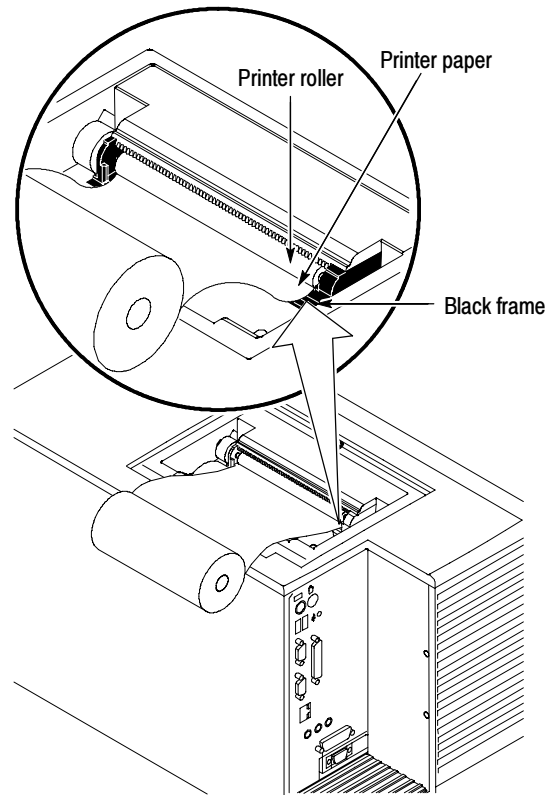

Figure 7: Feed the paper into the printer
4. Feed the paper into the printer, between the roller and the black frame. See Figure 7.